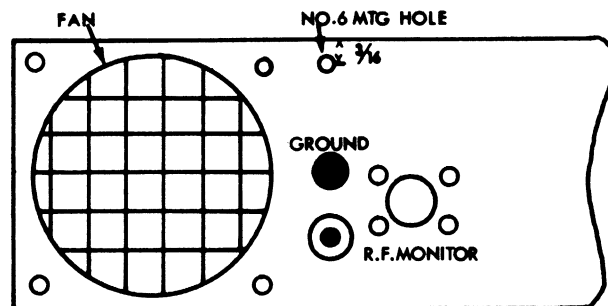
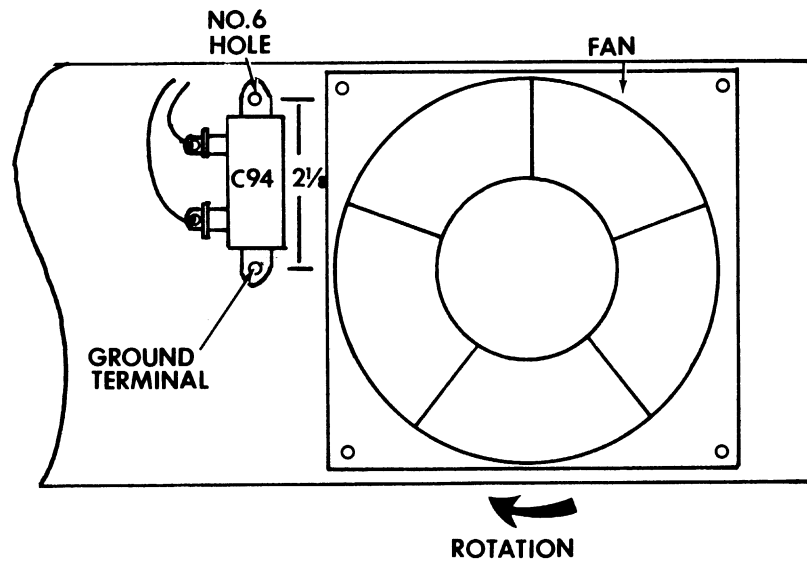

Figure 1
Figure 2
3. Remove the GROUND terminal from the rear panel of the instrument. (See figure 1). Do not discard the GROUND terminal or its mounting hardware; they are used to mount capacitor C94.
4. Drill a No. 6 (No. 26 drill) clearance hole in the rear panel 3/16 in. from the inside bend of the top of the rear panel (see figure 1) and 2-1/8 in. center-to-center from the mounting hole of the GROUND terminal. (See figure 2.)
6. Mount one end of capacitor C94 with the GROUND terminal and its mounting hardware obtained in Step 3 into the existing GROUND terminal mounting hole. Mount the other end of the capacitor into the mounting hole drilled in Step 4 using the screw, washer, and nut supplied with the kit. Capacitor C94 should be mounted with its terminals facing away from the fan. See figure 2.